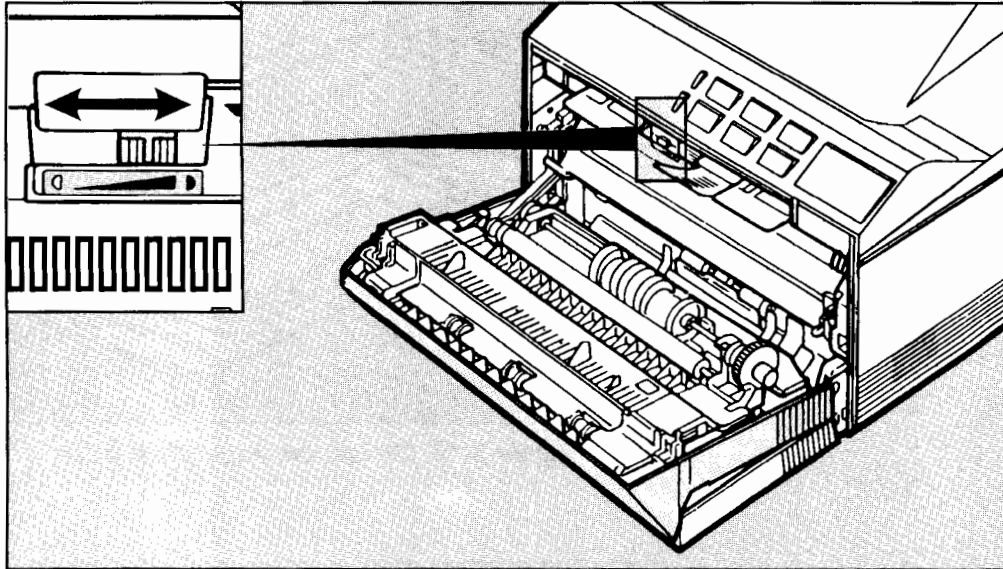

Figure 7-16. Adjusting Print Density
3. Move the print density slide (detailed in figure 7-16) to the right for darker print, or to the left for lighter print. The recommended setting is in the middle (you can feel a slight notch at this position).